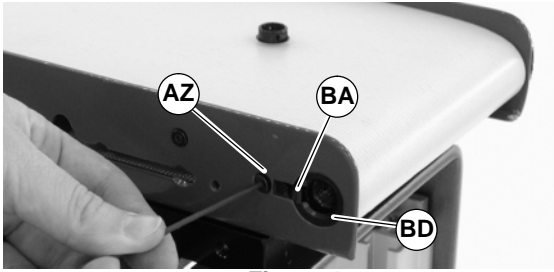

Figure 45
11. Insert retaining sleeve clip (BA of Figure 45) into slot and tighten with screw (AZ).